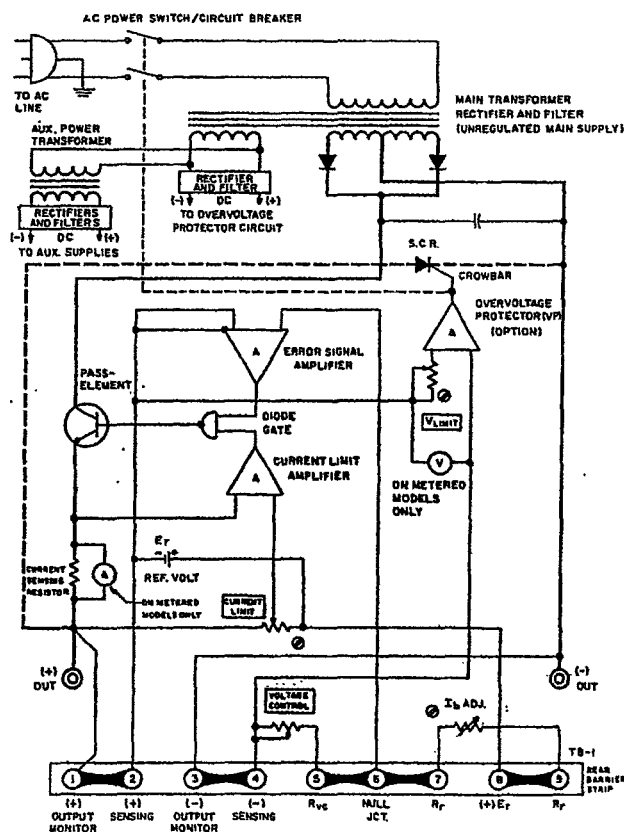

FIG. 4-1 SIMPLIFIED DIAGRAM, JQE HALF-RACK POWER SUPPLY.
(References in CAPITAL LETTERS refer to the nomenclature used in FIG. 4-1)
- 4-1 **SIMPLIFIED DIAGRAM DISCUSSION (Refer to FIG. 4-1)**
- 1) Check rear barrier-strip jumper connections for correct placement of the links and tight seat (Refer to FIG. 4-1).
- 3) Check reference voltage from terminal (2) to (8) on the rear barrier strip. Correct reference potential is 6.2V nominal.